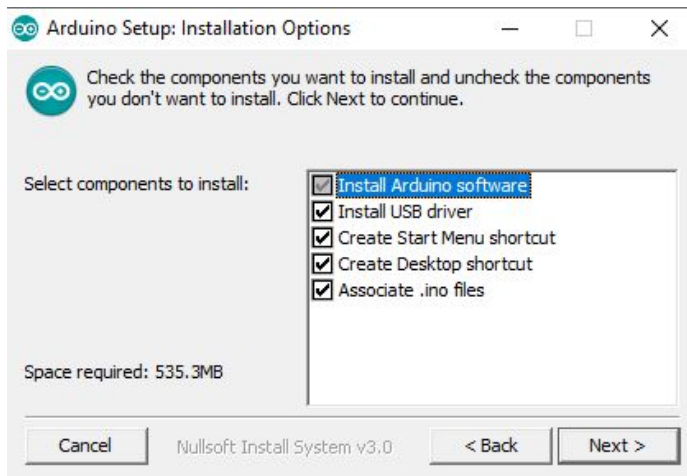

Fig. 3. The installation options screen of the Arduino IDE installer.
4. Make sure all the boxes are checked at the Installation Options screen. Then left click “Next.” The Installations Options screen should look like the one below (Fig. 3):